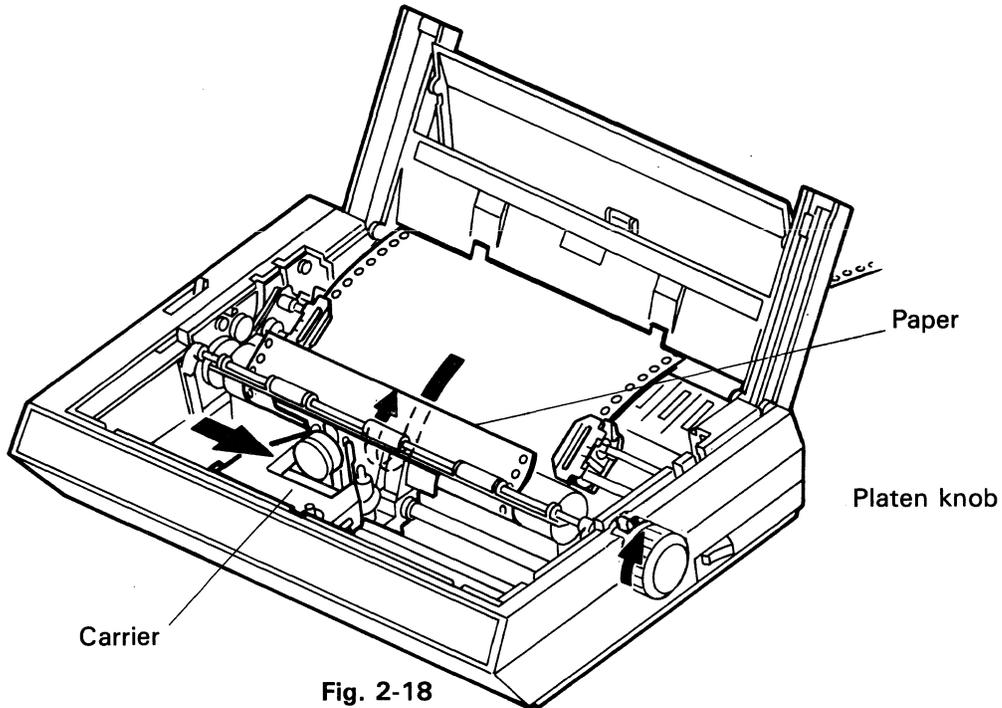

Fig. 2-18
2.6.2.3 Move the carrier to the center, and turn the platen clockwise as indicated by the arrow in Fig. 2-18 to feed the paper.